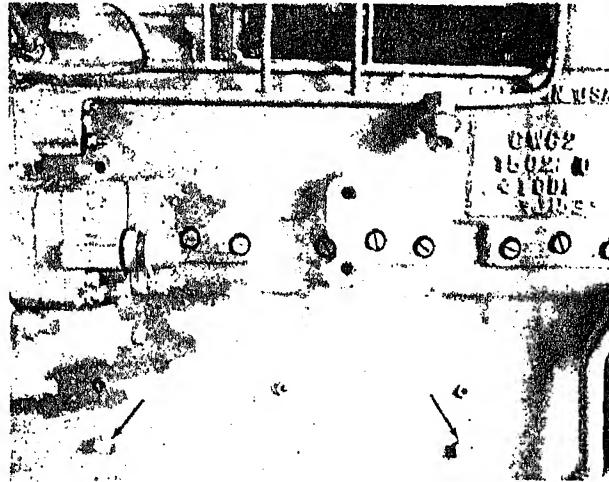

Fig. 14-2-1. Lubricating system priming point with bag-type filter N21
- a. When engine equipped with "bag-type" full-flow lubricating oil filter is used, priming point is on side of block, Fig. 14-2-1.